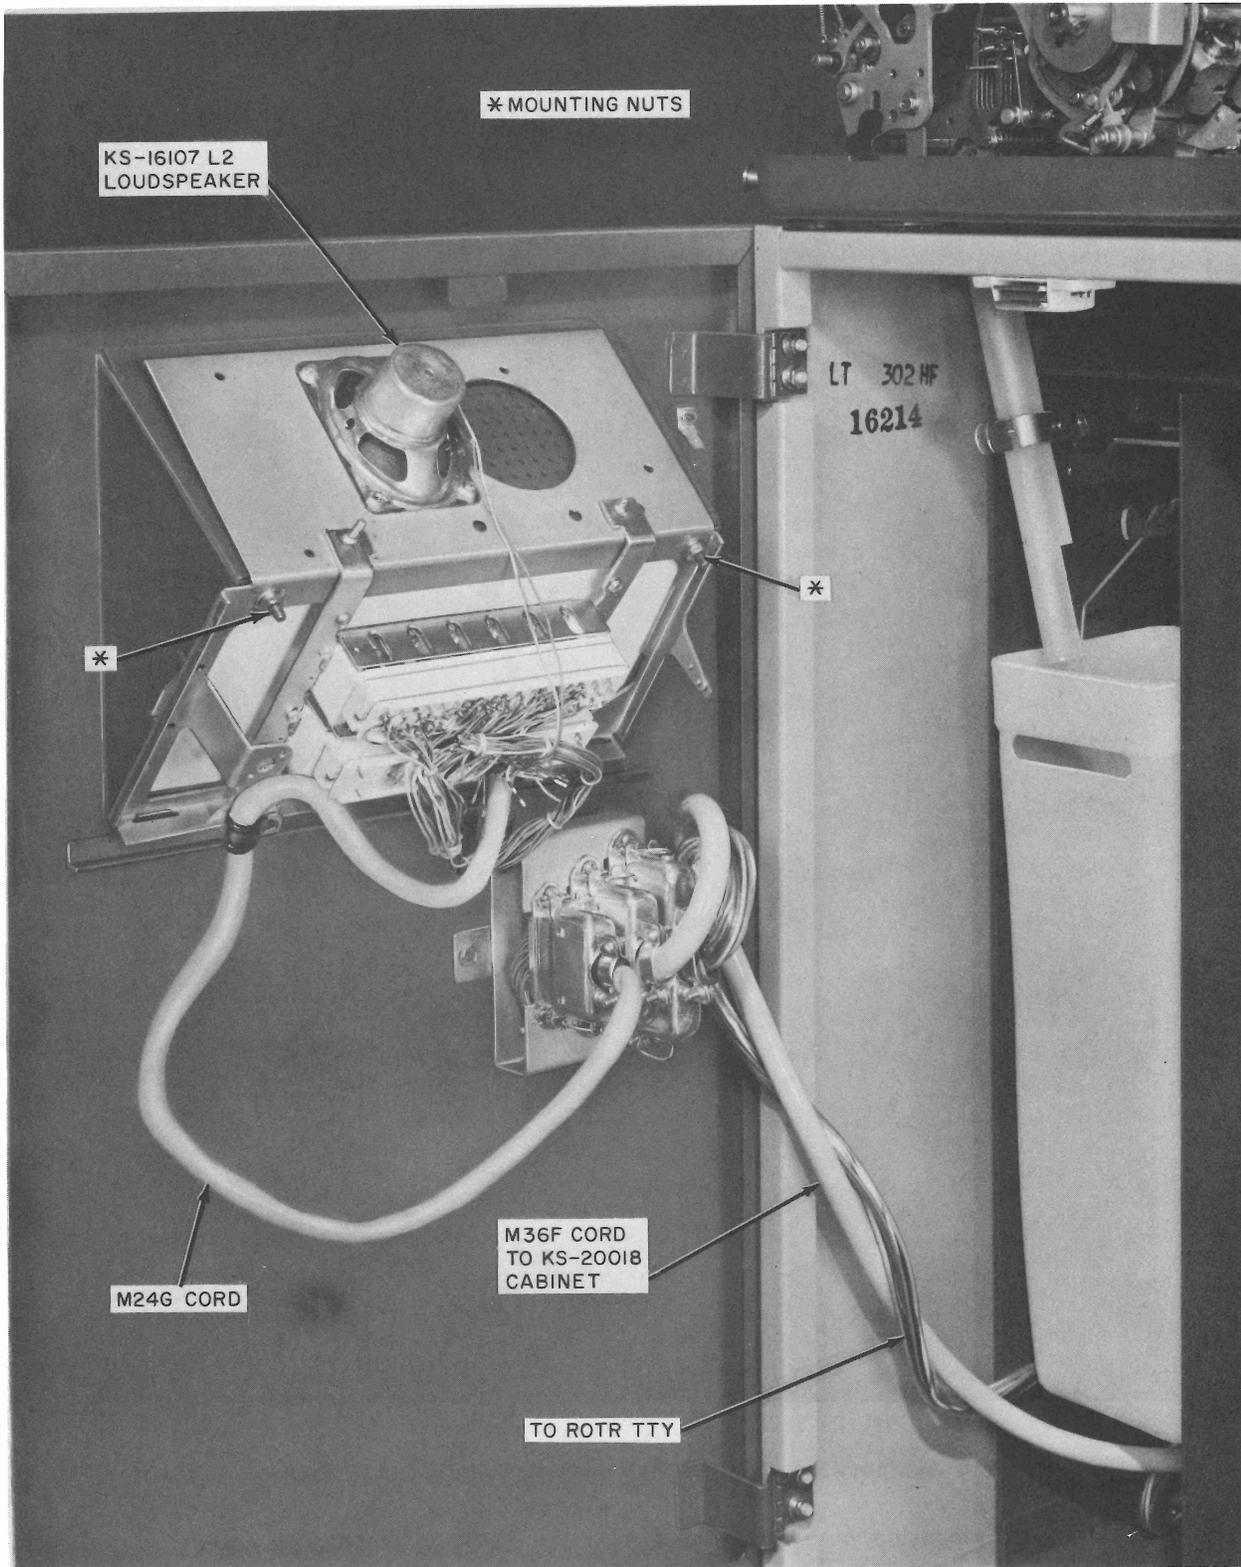

Fig. 9—Data Auxiliary Set 804R3, Mounted in Door of Model 35 ROTR Stand
6.01 Maintenance of DAS 804R3 is limited to the replacement of lamps, keys, cord, and/or loudspeaker (Fig. 9).
- (3) Remove the two mounting nuts which hold DAS 804R3 to the door (Fig. 9).
- (4) Remove the four screws which hold the loudspeaker to the mounting plate assembly.
- (5) Remove loudspeaker.
- (6) Reverse the procedure for the loudspeaker to be installed.